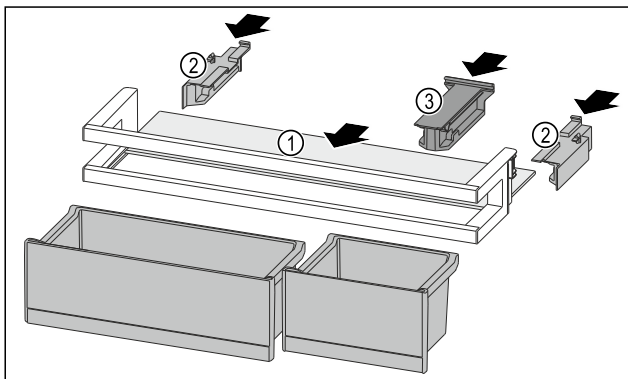

Fig. 88
- Push the shelf Fig. 88 (1) into the side recesses.
- Insert the side parts Fig. 88 (2).
- Insert the holding part Fig. 88 (3).